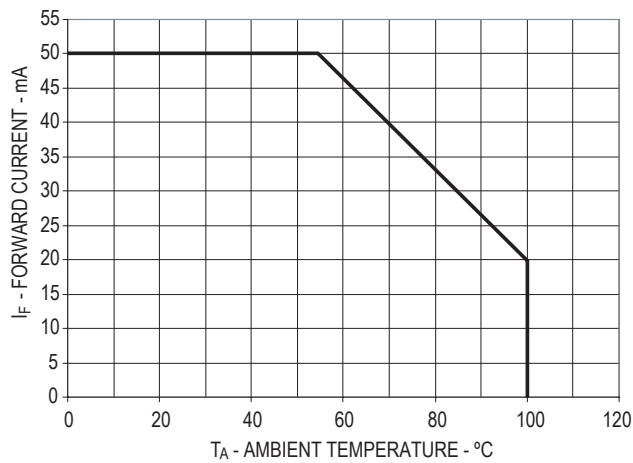

Figure 4. Maximum forward current vs. ambient temperature
1. Derate linearly as shown in Figure 4.